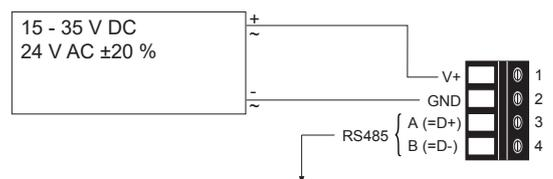

Fig. 1 Connection Diagram
- Insert the cable for supply voltage and output signal through the cable gland and connect it to the spring-loaded or screw terminals according to the wiring diagram (Fig. 1 Connection Diagram).